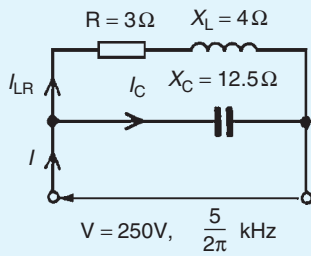

Figure 16.17
10. The following statements, taken correct to 2 significant figures, refer to the circuit shown in Fig. 16.17. Which are false?